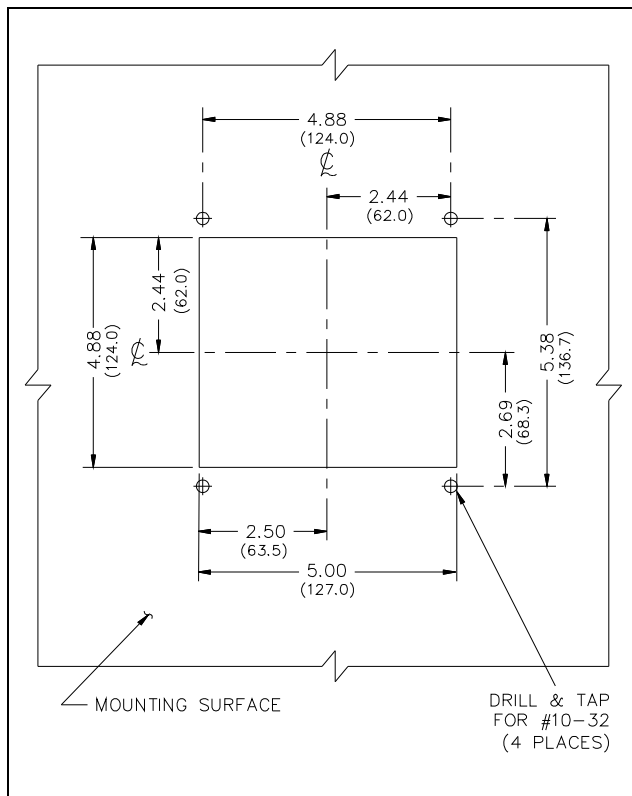
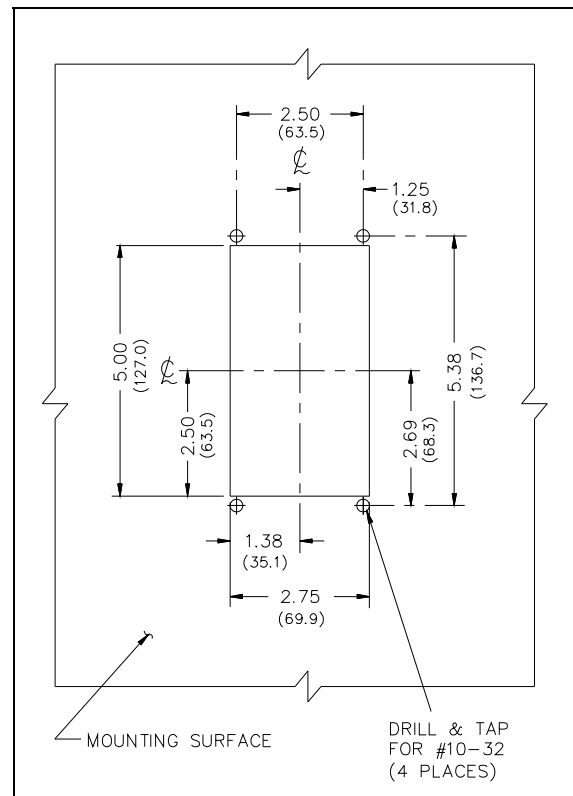

Figure 5. Model 7165-102 Cutout Details
Figure 6. Model 716-102 Cutout Details
1. Drill and tap four holes in the mounting surface for the four No. 10-32 machine screws (included) (see Figure 5 for the Model 7165-102 cutout details, see Figure 6 for the Model 716-102 cutout details).